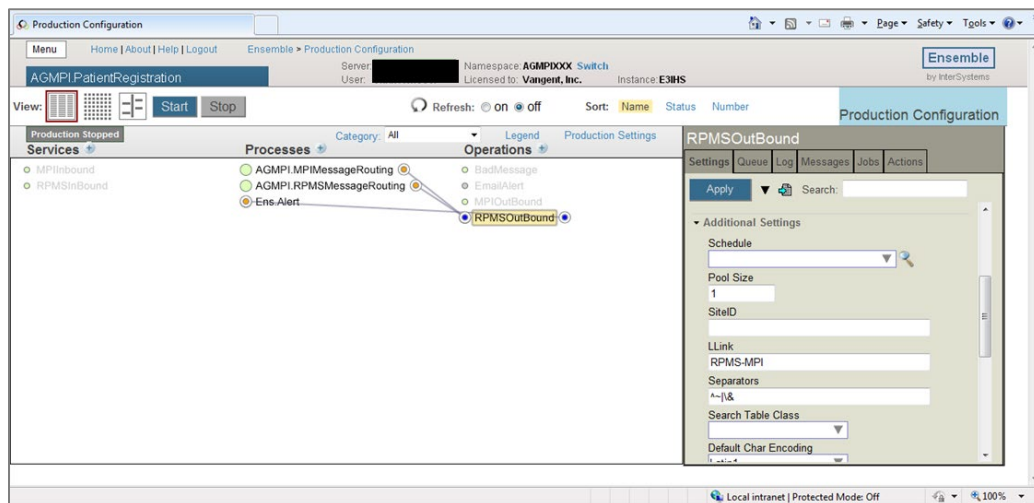

Figure 5-23: RPMSOutBound configuration settings
1. Click **RPMSOutBound** on the **Production Configuration** page to display the RPMSOutBound configuration settings, as shown in Figure 5-23.